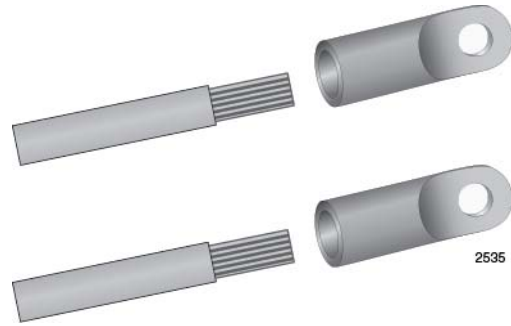

Figure 126. Attaching the Power Wires to the Power Terminal Lugs
2. Insert the power wires into the terminals included with the power supply and use a crimping tool to secure the wires to the terminals. See Figure 126 on page 189.